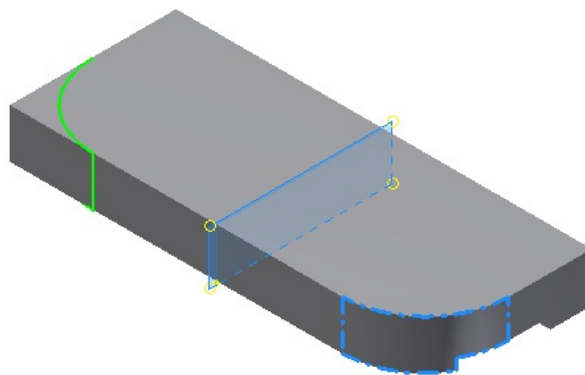

Figure 6-155 Preview of the mirror
- h. Mirror the fillets and features using the **Mirror** tool, refer to Figure 6-155.
3. Select the fillet feature. After selecting the fillet feature, choose the **Mirror Plane** button from the **Mirror** dialog box and then choose the **YZ** plane from the **Origin** tab of the **Browser Bar**; the preview of the mirror feature is displayed in the Graphics window, as shown in Figure 6-155.